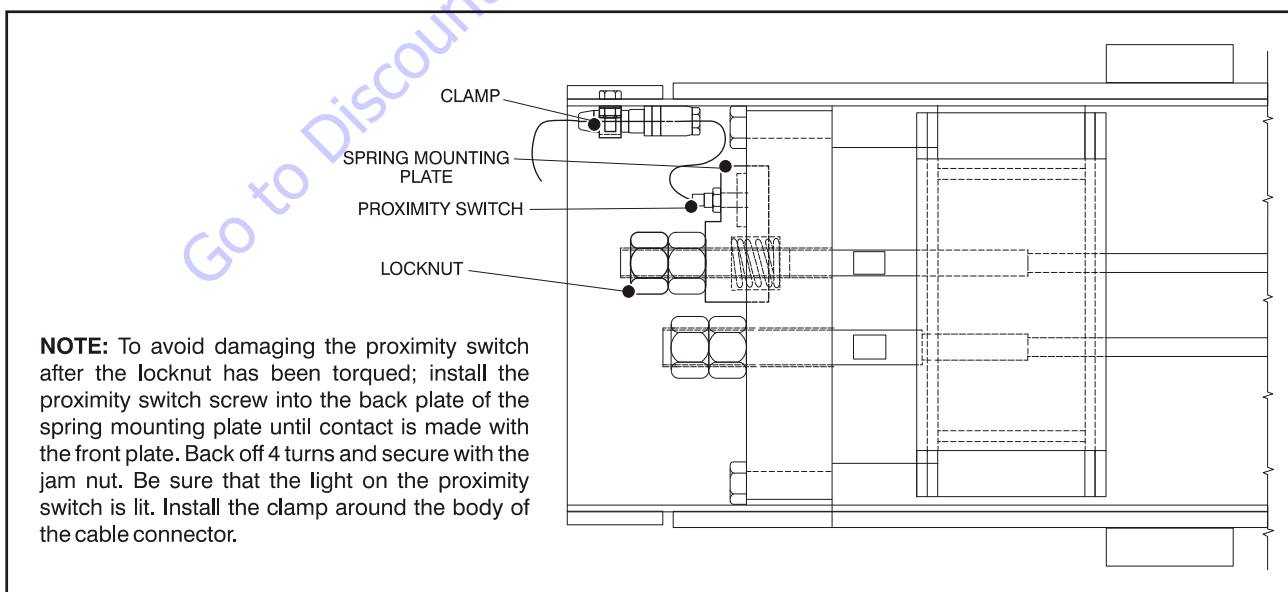

Figure 4-20. Proximity Switch Installation
18. Install extend wire rope mounting blocks, proximity mounting plate and spring to threaded ends of wire ropes. Loosely install nuts and jam nuts on threaded ends of wire ropes. Refer to Figure 4-20., Proximity Switch Installation.